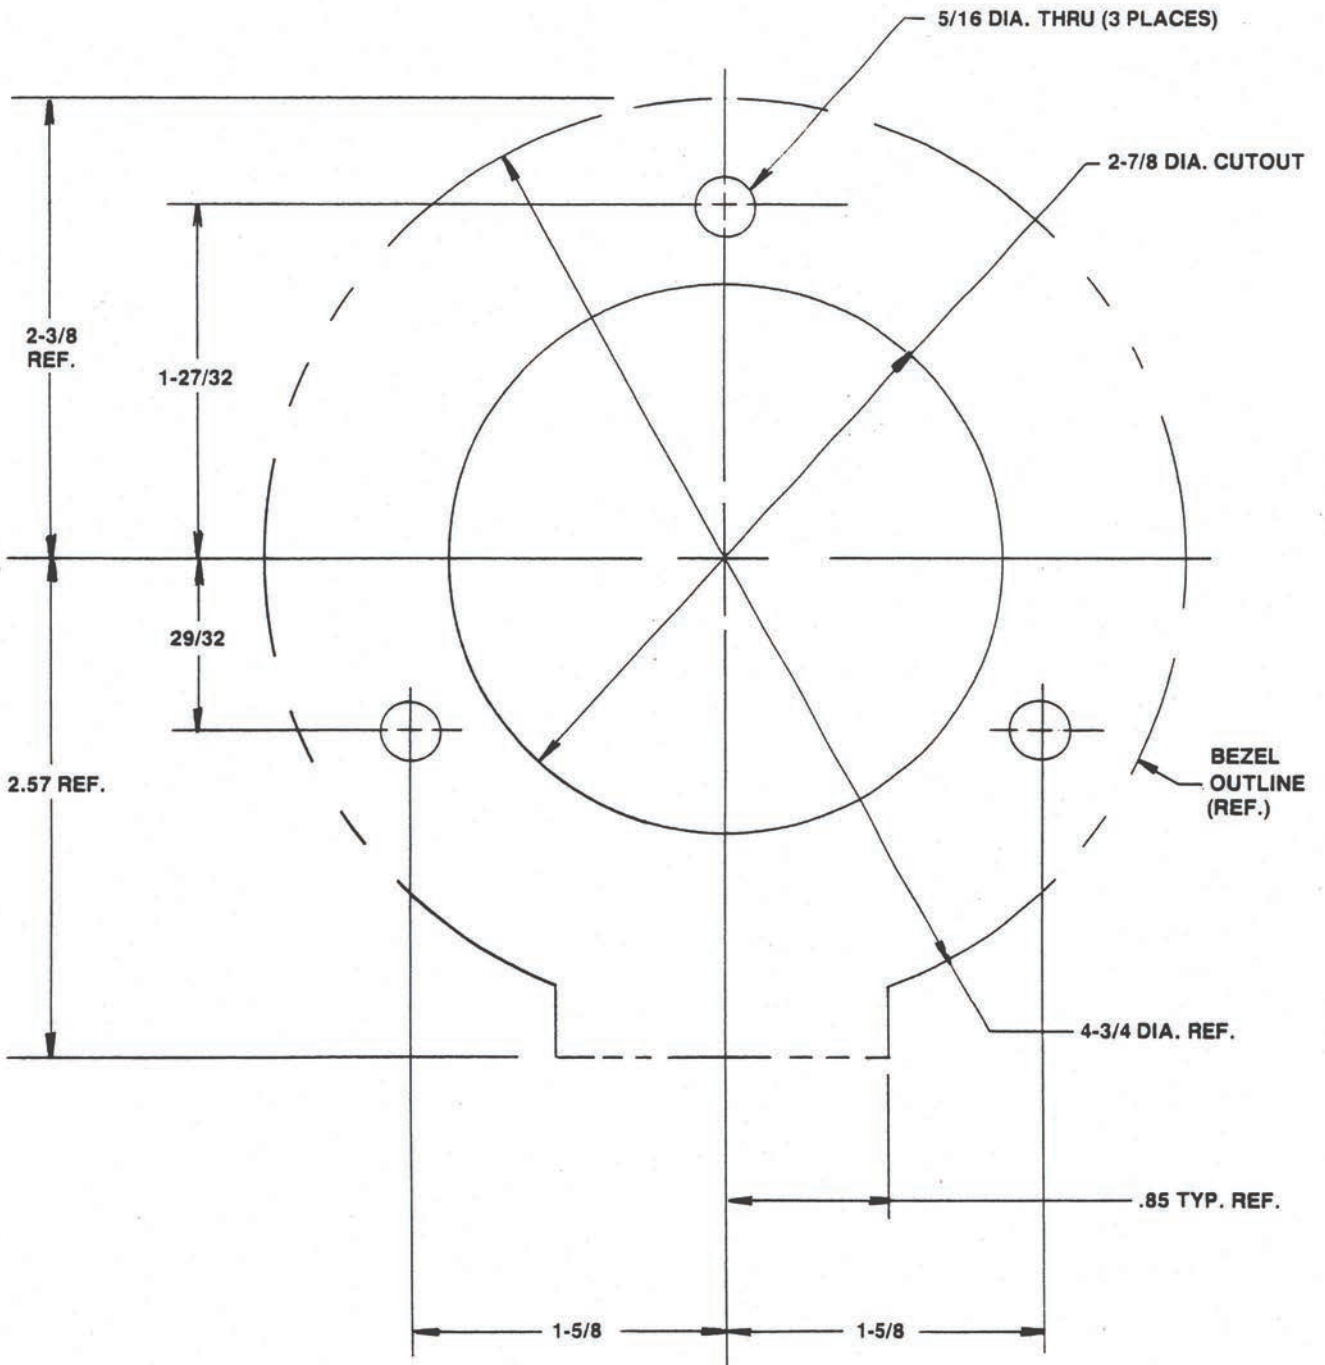

Figure 3.
STEP 2. Position the template (Figure 3, page 7) on the console or dashboard at the location previously marked, and drill three holes 5/16" diameter and one hole 2-7/8" diameter.